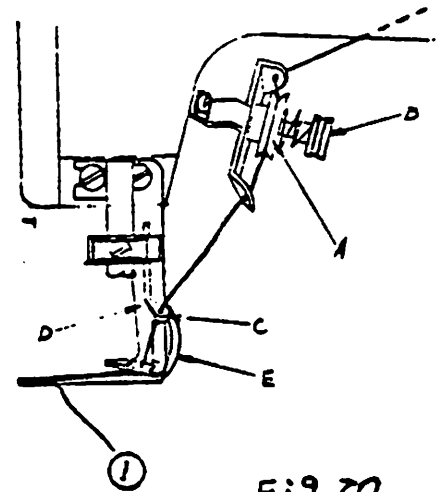

FIG 20
A. How to thread on upper covering thread. Please refer to the Fig. 20.